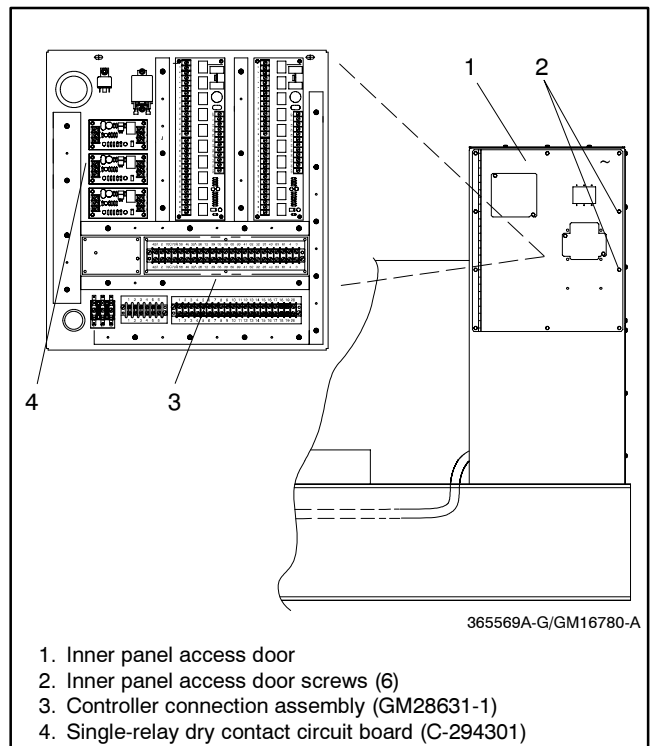

Figure 2 Junction Box Terminal Block Bracket Mounting
- 2.1 Remove the junction box upper rear panel and hardware. See Figure 2.
- 2.3 Attach controller connection assembly (GM28631-1) to junction box bracket using two screws (X-49-6) and whiz nuts (X-6210-3). The controller connection assembly includes terminal strip (328913), strip marker (328914), and wiring harness (GM10177). See Figure 2 for mounting location.
- 3.1 Mount the single-relay dry contact circuit board (C-294301) to the junction box bracket studs using four spacers (X-712-9) and nuts (X-70-12). Place the spacers between the single-relay dry contact circuit board and the mounting bracket. See Figure 2 for the mounting location.